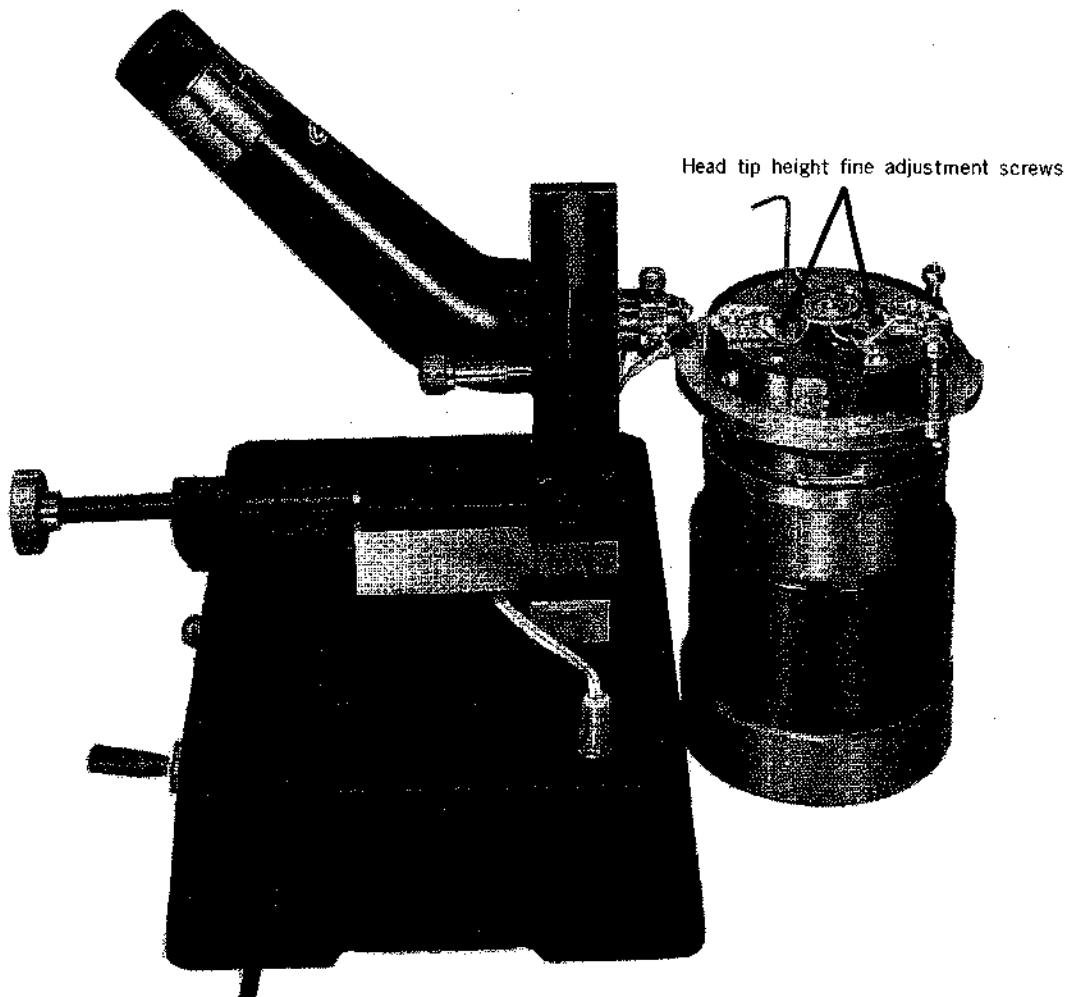

Fig. 9 Head Height Adjustment
- (d) Regulate each of the head tip height fine adjustment screws so that the head tip height is within a range of from $450\text{ }\mu$ to $460\text{ }\mu$ from the upper end of the lower drum. (Ref. Figs. 9 and 10).